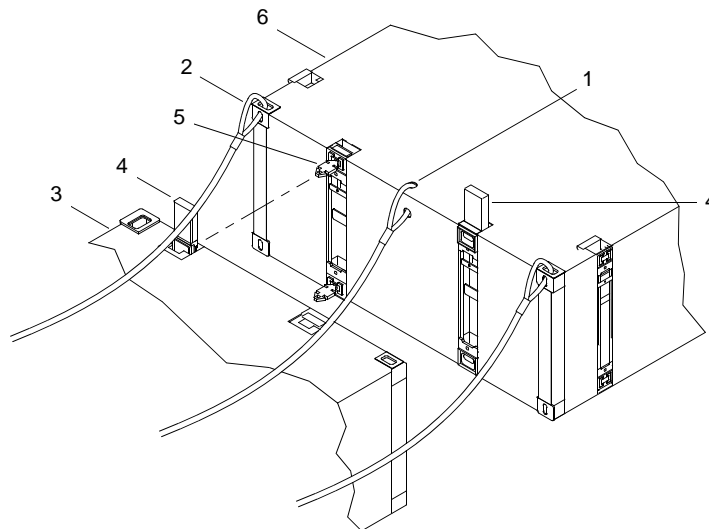

Figure 13. Aligning Male and Female Connectors in Water
1. Attach tag lines to turn tubes (figure 13, item 1) and ISO corner fittings (figure 13, item 2).
2. Using tag lines, maneuver end rake module (figure 13, item 3) so that female connectors (figure 13, item 4) align with male connectors (figure 13, item 5) on center module (figure 13, item 6).